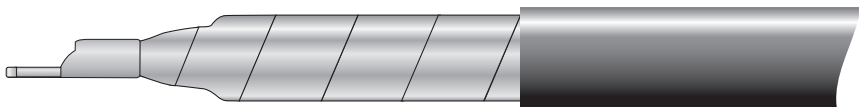

Figure 15.
5. Re-wrap the copper tape back into its original position neatly over the aluminium conductors. Wrap the tape as tight as possible over the aluminium strands and place both the tape and strands into the supplied 70 mm² crimp lug and crimp securely using a suitable compression or mechanical crimping tool [Figure 15]. Note, this will require crimping at 70 mm² to obtain a secure compression.